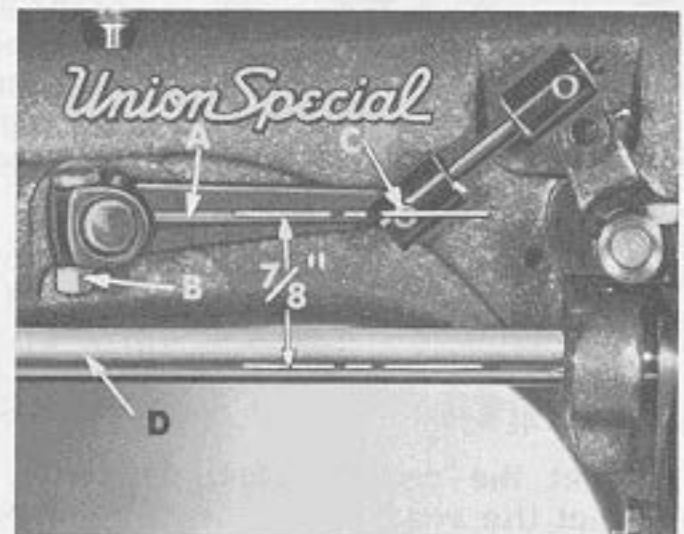

Fig. 6
Turn handwheel in the operating direction until the needle bar is at the bottom of its stroke. While holding the handwheel, position the upper feed lift driving lever (A, Fig. 6) after loosening nut (B) so the distance between the
centerline of the link pin (C) and the centerline of the upper feed drive rock shaft (D) is $7/8$ inch (Fig. 6). Retighten nut (B).